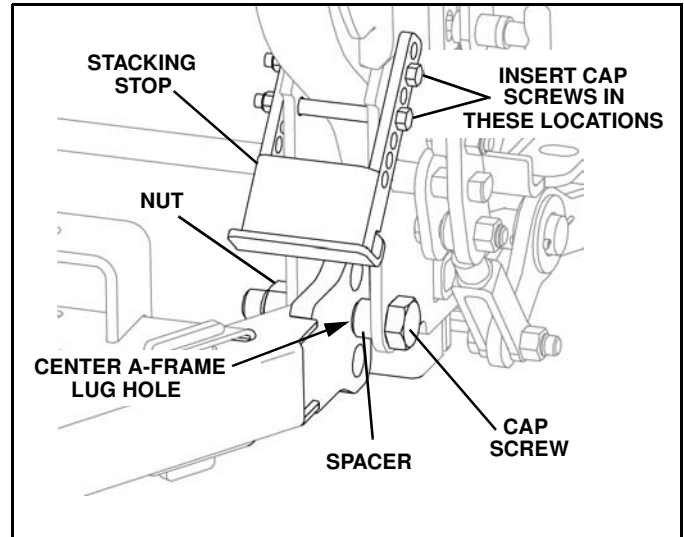

Figure 1-10
b. With a dimension of 9" to 10", the center lug holes are used to connect the A-Frame to the Lower Light Lift Bar (LLL) frame. Insert the cap screw (from the outside) through the LLLB frame, spacer, A-Frame lug center hole and LLLB frame. Secure with nut. Position the Stacking Stop as shown and secure with two cap screws and nuts as shown. Repeat this step for the opposite side. (See Figure 1-10). Proceed to Step 12.